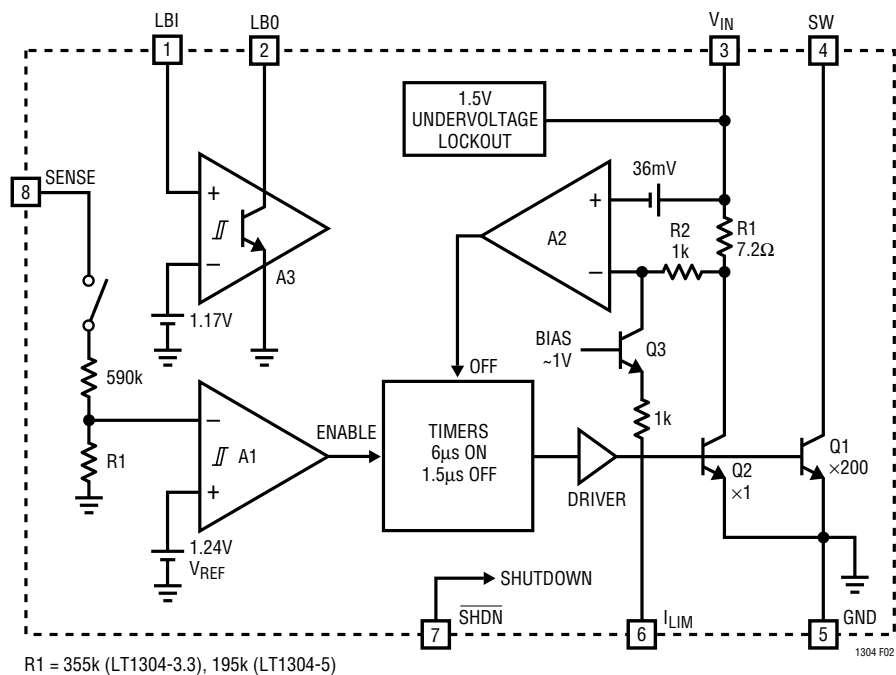

Figure 2. LT1304-3.3/LT1304-5 Block Diagram
**Figure 5. Start-Up Response with  $1\mu F/1M\Omega$  Components in Figure 2 Added. Input Current Is More Controlled.  $V_{OUT}$  Reaches 5V in 6ms. Output Drives 20mA Load**